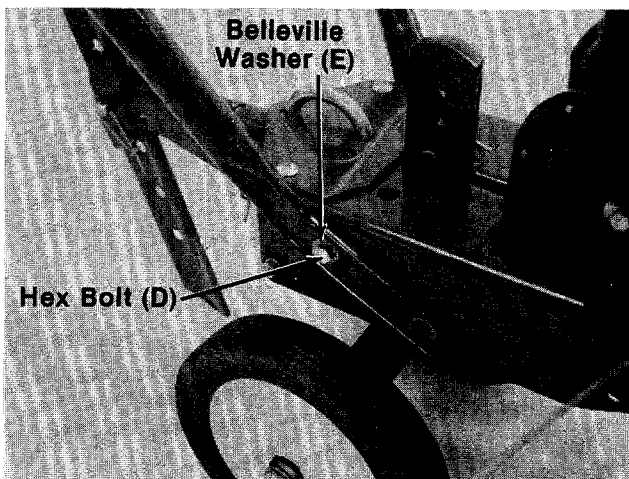

FIGURE 6.
4. Start the hex bolt and belleville washer (removed in step 1) by hand in the bottom hole in handle. See figure 6.
6. Place belleville washer (E) on hex bolt (D), and insert hex bolt through handle and frame. Secure with lock washer (F) and hex nut (G) on inside of frame. See figure 6.